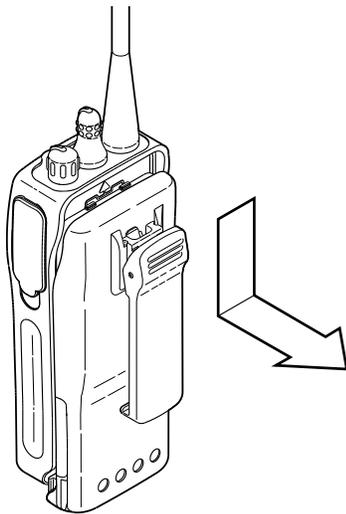

Figure 3-2.
2. While holding the battery latch in the open position, slide the battery down approximately 1/2 inch and then off the radio housing as shown in Figure 3-2.